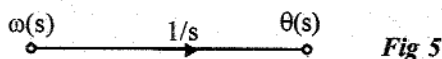

Fig 5
The equations (1) to (5) are rearranged & individual signal flow graph are shown in fig 1 to fig 5.
The overall signal flow graph of armature controlled dc motor is obtained by interconnecting the individual signal flow graphs shown in fig 1 to fig 5. The overall signal flow graph is shown in fig 6.